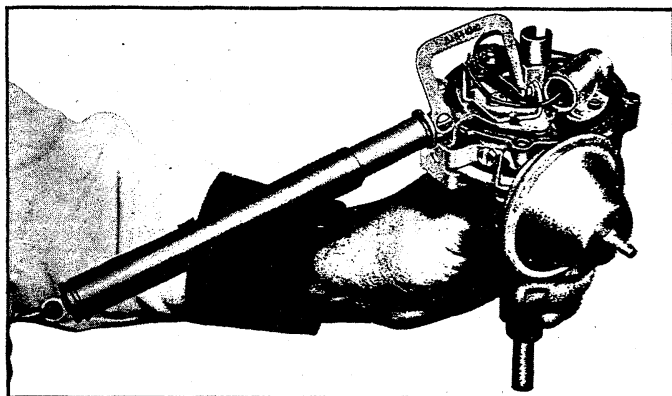

Fig. 5i—Checking Breaker Arm Spring Tension
8. Check and adjust points for proper alignment and breaker arm spring tension (fig. 5i). Use an aligning tool to bend stationary contact support if points need alignment.
chatter resulting in arcing and burning of the points and an ignition miss at high speed, while excessive tension will cause undue wear of the contact points, cam and rubbing block. Breaker arm spring tension should be 19-23 ounces. The contact point pressure should be checked with a spring gauge. The scale should be hooked to the breaker lever and the pull exerted at 90 degrees to the breaker lever as shown in Figure 5i. The reading should be taken just as the points separate. The pressure can be adjusted by bending the breaker lever spring. If the pressure is excessive, it can be decreased by pinching the spring carefully. To increase pressure, the lever must be removed from the distributor so the spring can be bent away from the lever. Avoid excessive spring distortion.